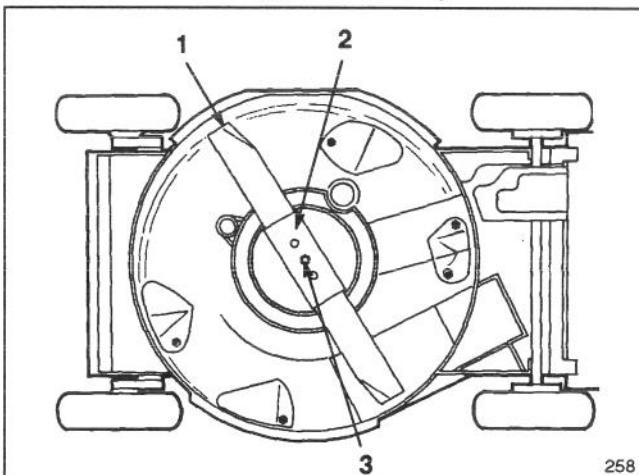

Figure 25
3. Tip mower on its right side (Fig. 25). Avoid rotating blade because starting problems may result.
5. REMOVING BLADE—Grasp end of blade using a rag or thickly padded glove. Remove blade bolt, lockwasher, blade stiffener and blade (Fig. 25).